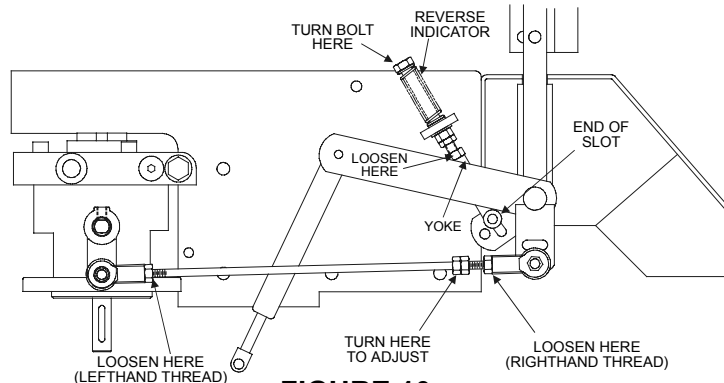

FIGURE 10
- c) Begin with either the left or right motion control lever. Move lever to the neutral position and pull lever back until the clevis pin (on arm below pivot shaft) contacts the end of the slot (just beginning to put pressure on spring), See Figure 10.
- e) Loosen lock nuts from the ball joints at each end of the RH pump control linkage (See Figure 10).
- h) Bring the RH motion control lever into the neutral position. Adjust RH pump control rod length by rotating the double nuts on the rod in the appropriate direction until the wheels slightly creep in reverse. (See Figure 10). Move the motion control lever to the reverse position and while applying slight pressure to the lever, allow the reverse indicator spring to bring the levers back to neutral. The wheel must stop turning or slightly creep in reverse.